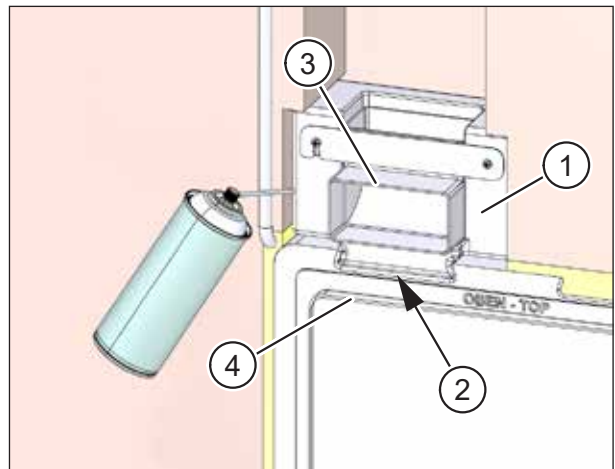

Fig. 25: Inserting ductwork connection adapter and filling gaps with foam
- ▶ Insert the ductwork connection adapter (item 1 in Fig. 25) into the guide (item 2 in Fig. 25) on the top of the wall box (on the extract air side, supply air side or on both sides as shown in the plans).
- ▶ Push the ductwork connection adapter in until the flat ductwork bend (item 3 in Fig. 25) ends flush with the plastering trim (item 4 in Fig. 25).